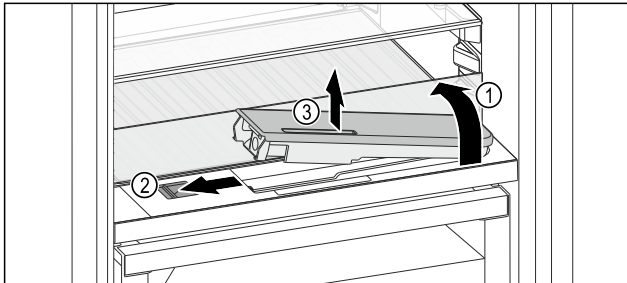

Fig. 230
- ▶ Lift the glass panel and fold towards the rear until it clicks into place Fig. 230 (1).
- ▶ Slide the slider Fig. 230 (2) to the left.
- ▶ Remove the water tank Fig. 230 (3).